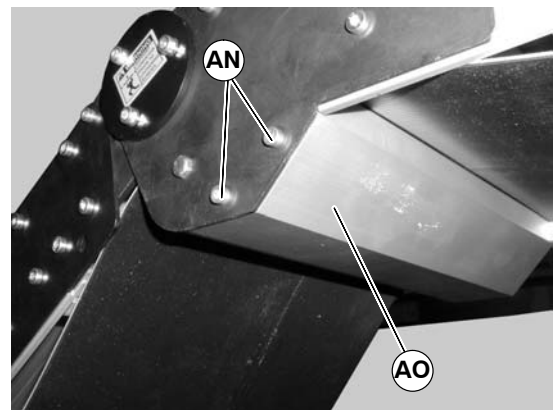

Figure 24
- Remove screws (AN of Figure 24) on both sides of knuckle and remove guard (AO).